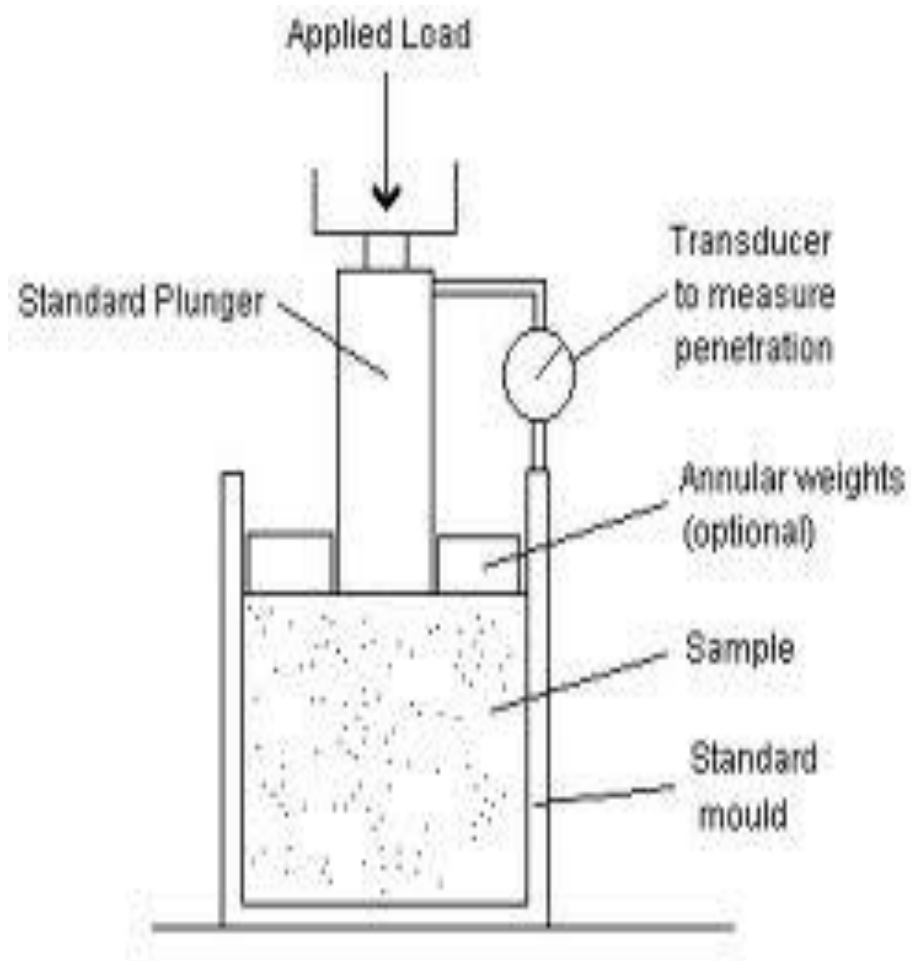

Fig 2.Schematic of CBR Test
1)Place the mould assembly with the surcharge weights on the penetration test machine. (Fig 2)